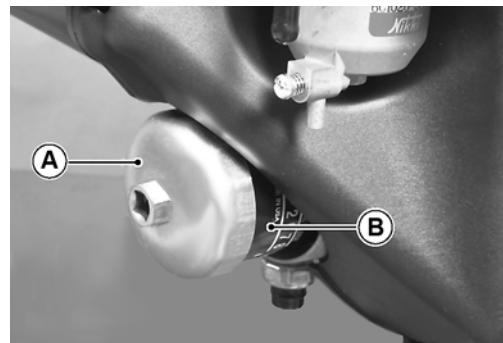

Fig. 20 Remove Oil Filter
Clean the area around filter. Using a filter wrench, strap wrench or other suitable filter wrench (A), remove the filter (B) from the engine and allow the oil to drain. The 'O' rings may remain on engine or filter (Ref Fig. 20 on page 16)